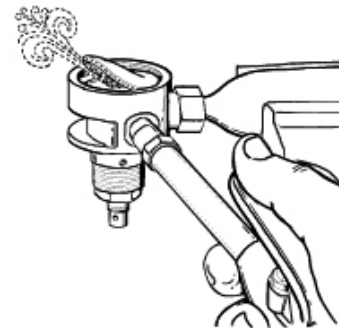

Figure 8 - Removal of diaphragm
12. Apply a 5/16" blade screwdriver to the adjustment screw (1), and turn counterclockwise to loosen and remove from the spring retainer (2). Set the adjustment screw aside.
13. Lift out the washer (3) and the main spring (4). Examine the main spring with the use of a magnifier, checking closely for any signs of pitting, rusting, or other corrosion which permeates the surface of the metal. If permanent corrosion is found, discard the spring and do not attempt to reuse.
14. Apply a 1" open-end wrench to the spring retainer, and turn the spring retainer counterclockwise to loosen and remove from the first stage body (10). Inspect the spring retainer to check for any signs of oxidation or corrosion, such as pitting, or thread damage. If any corrosion or damage is found, replace with new and do not reuse.
15. Lift the spring pad (5) out of the first stage and set it aside. Remove the thrust washer (6) and discard.
16. Direct a short burst of low pressure (50 psi) air through the open IP port to dislodge the diaphragm (7) from the first stage body (see Figure 8). Lift out the diaphragm and discard. If LP air is not available, DO NOT attempt to pry out the diaphragm. Please use the alternate method, described after Step 22.